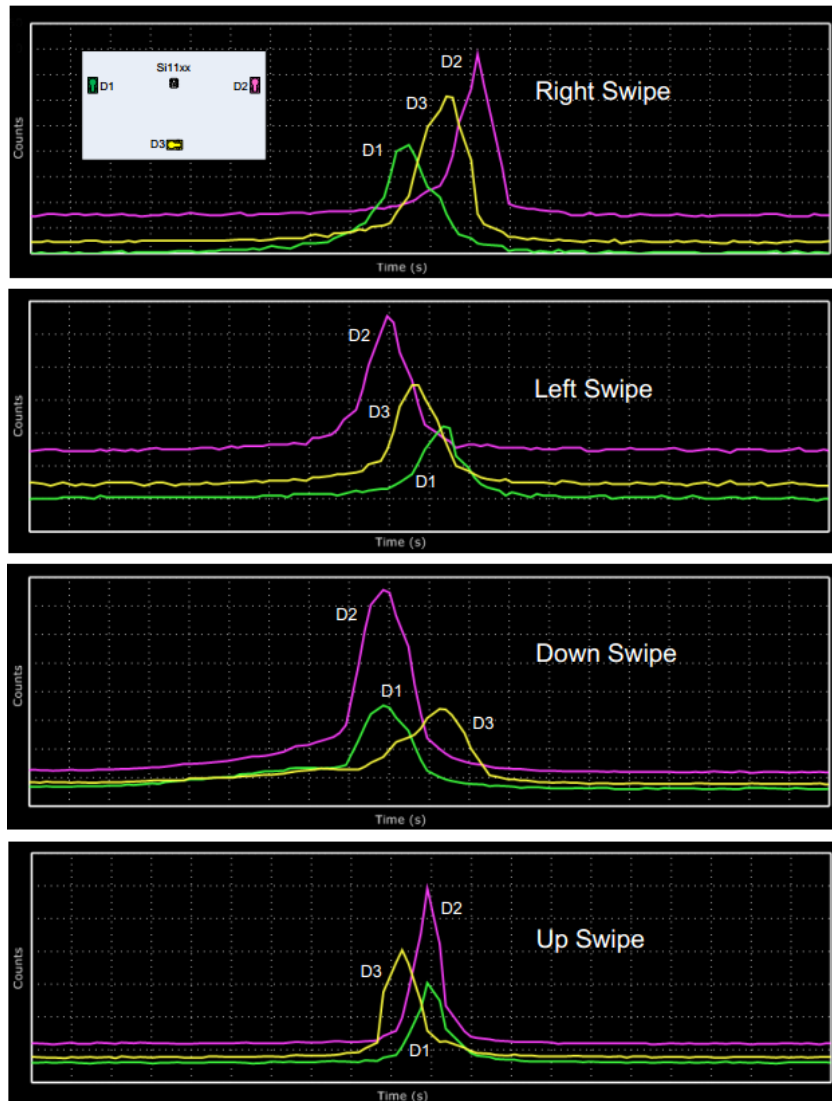

Figure 7-7 Gesture detection data in time domain
User has to switch from Type 1 to Type 2 by press KEY[0] on the DECA board. In Type 2 demo, Si1143 will read and update PS Register automatically then send out interrupt signal to NIOS when done reading and updating data. We can apply this updating characteristic of timing difference and data changes of Proximity Sensing (PS) to achieve gesture detection. As shown in **Figure 7-7**, indicates the gesture detection data in time domain of different gesture swipe. For more details, please refer to “AN498: Designer's Guide for the Si114x” or “Si114xRev1_3” or “AN580 Method 2: Phase-based Gesture Sensing.”